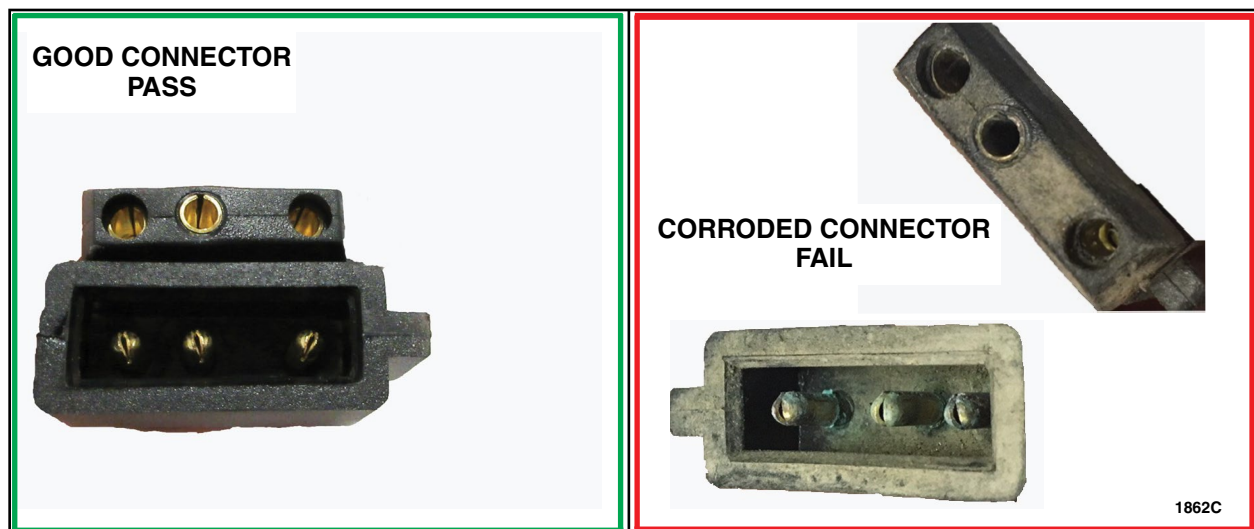

FIGURE 2
2. Does the wire assembly in-line connector appear corroded on one or both sides? See Figure 2 and 3.